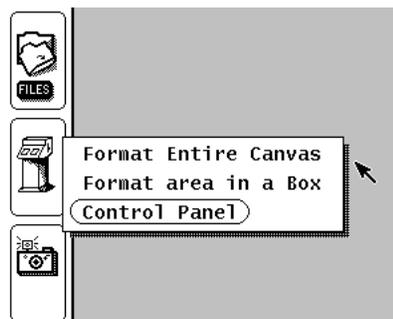

Figure 4 Format icon pop-up menu
Use the Pegasys **Format** icon to print displayed images from a Pegasys application. The **Format** icon appears on the right border of the Pegasys application window. Right-click on the **Format** icon to display a pop-up menu (Figure 4) with three options:
1. Display the **Formatting Control Panel** by right-clicking on the **Format** icon and selecting **Control Panel** from the pop-up menu (Figure 4).
- Right-click on the **Format** icon and select **Format Entire Canvas** (Figure 4).
1. Right-click on the **Format** icon and select **Format Area in a Box** from the pop-up menu (Figure 4).